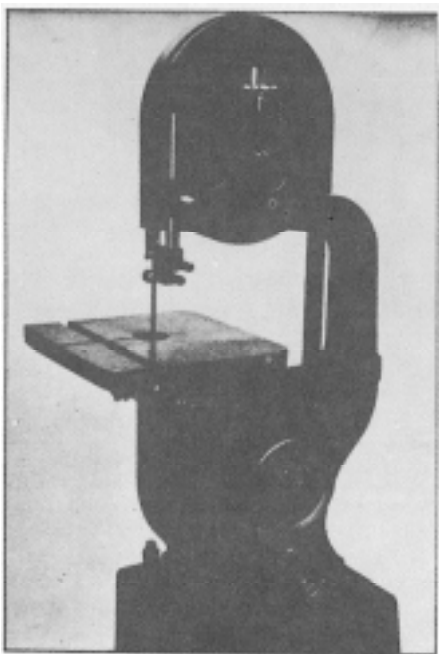

Fig. 6
3. Return the stand to the upright position and assemble band saw to stand using four 1-1/2" roundhead slotted screws, flat washers, lockwashers and nuts, as shown in Fig. 6.